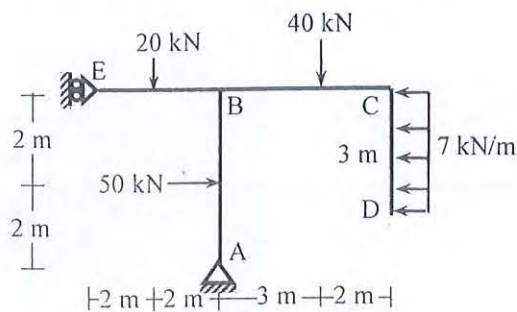

Fig.B1
1. Analyze the frame as shown in *Fig.B1* to draw the shear force and bending moment diagram [17]